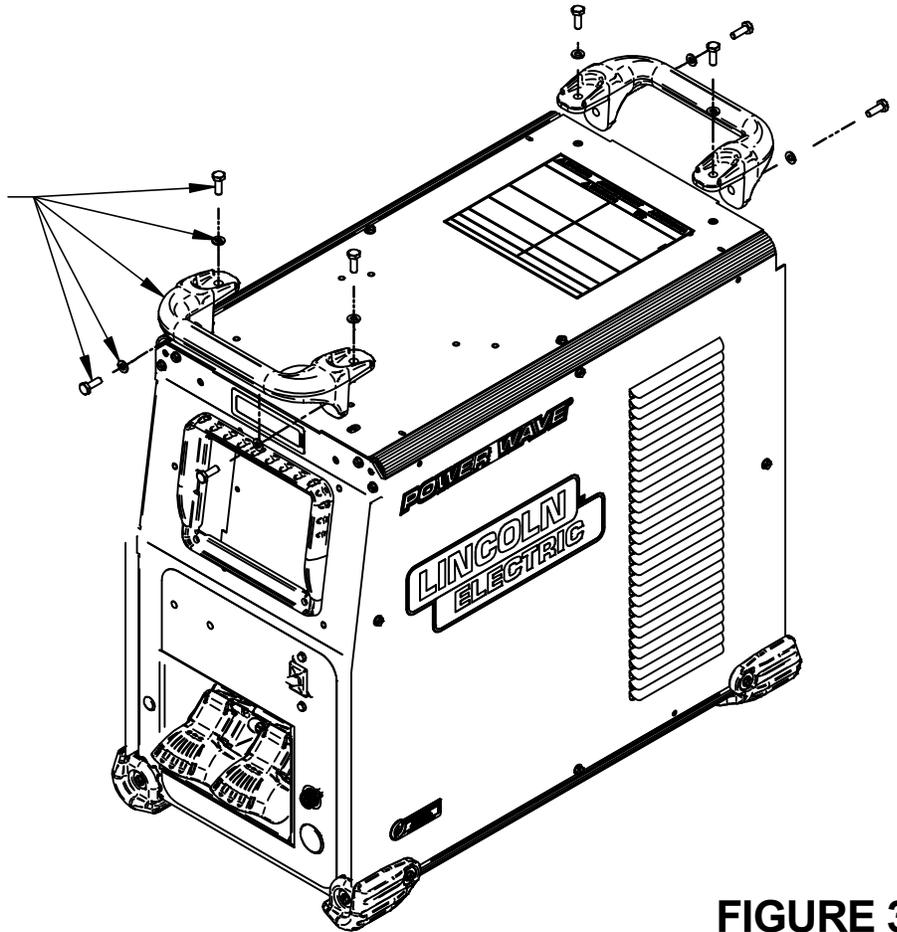

FIGURE 3
5. Remove the two handles by removing the screws and lock washers mounting them, using a 7/16" nut driver or other suitable tool (Figure 3). Retain all mounting hardware for reinstalling the handles.